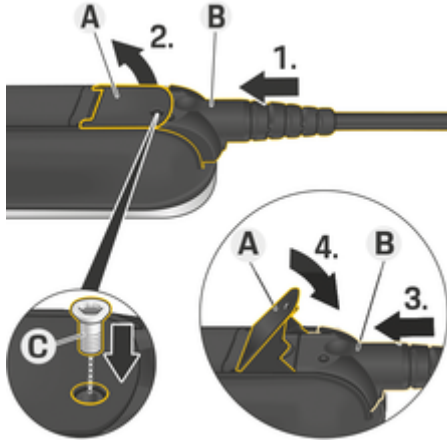

Fig. 9 Securing cables and plugs
✓ The lever **A** (Fig. 9) is closed.
1. Insert the plug **B** (Fig. 9) into the control unit until resistance is first felt.
5. Secure the plug **B** to the control unit using screw **C** (Fig. 9).